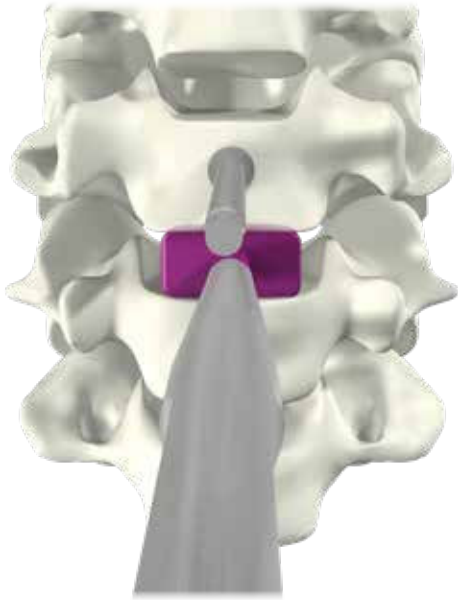

Figure 6a
- Should provide optimal endplate coverage, height restoration, and good segmental stability (Figure 6a).